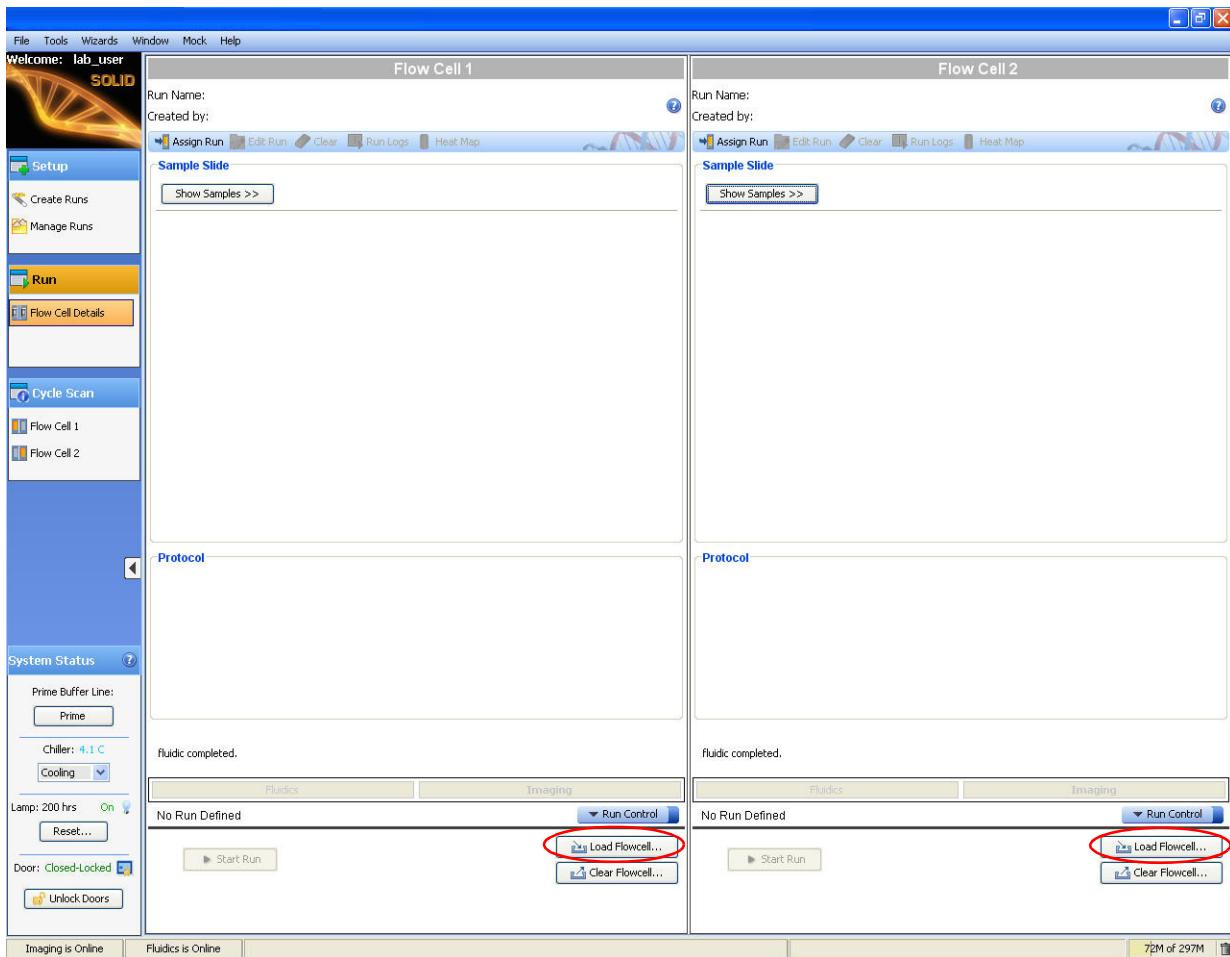

Figure 23 Click Load Flowcells to load the flowcell with buffer.
10. Click the **Load Flowcells** button located at the bottom of the flowcell panel. Each flowcell has its own Load Flowcells button (see Figure 23 on page 29).